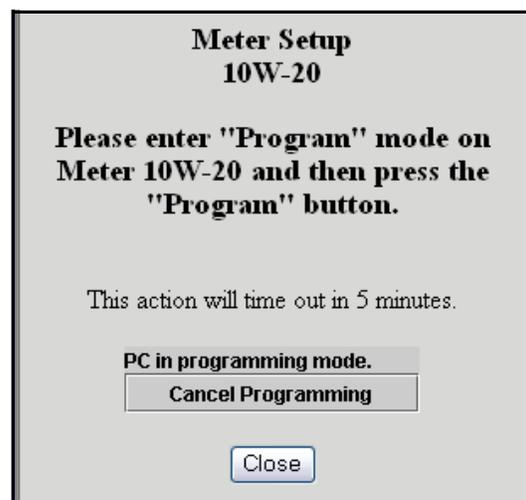

FIG. 67 Meter programming screen
2. Click that meter's *program* link. This puts the PC in program mode for that meter. You are prompted with the screen shown in FIG. 67.